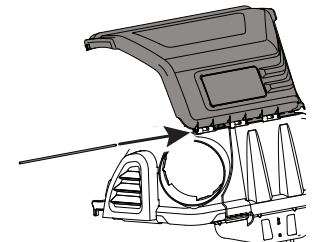

Figure 15
6. From the front of the assembly, line up the tabs on the upper grass catcher cover with the tabs at the front of the upper chute support. Slide the hinge pin through the slots beginning at the right side upper chute support of the mounting tabs, as in Figure 15. Push the pin all the way in until it reaches the end-stop.